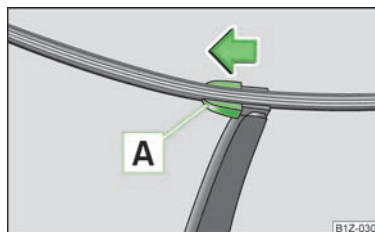

Fig. 37
- Fold the windscreen wiper arm away from the windscreen and position the wiper blade at a right angle to the wiper arm » Fig. 37.